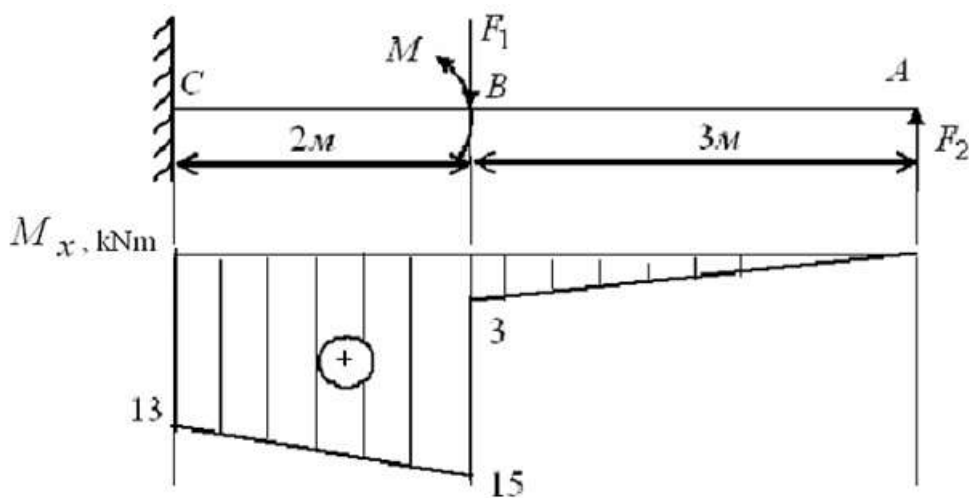

Fig. 14.3
Let us define the value of bending moment in characteristic sections and build the diagram M_x (Fig. 14.3):
3. From diagram M_x (Fig. 14.3):